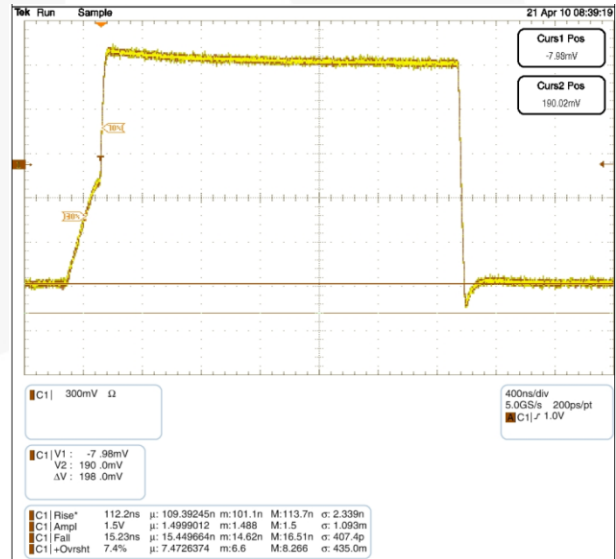

Figure 4. Waveform C: 600pF, Total R_{PU}: 2.2K Ω
between the ports until either of the port's $V_{CC}/2$ thresholds are reached. After the RC time constant has reached the $V_{CC}/2$ threshold of either port, the port's edge detector triggers both dynamic drivers to drive their respective ports in the LOW-to-HIGH (LH) direction, accelerating the rising edge. The resulting rise time resembles the scope shot in Figure 4. Effectively, two distinct slew rates appear in rise time. The first slew rate (slower) is the RC time constant of the bus. The second slew rate (much faster) is the dynamic driver accelerating the edge.
The FXMA2104 dynamic drivers have enough current-sourcing capability to drive a 400pF capacitive bus. This is beneficial when an I²C buffer / repeater is required. The I²C specification stipulates a maximum bus capacitance of 400pF. If an I²C segment exceeds 400pF, an I²C buffer / repeater is required to split the segment into two segments, each of which is less than 400pF. Figure 4 is a scope shot of an FXMA2104 driving a lumped load of 600pF. Notice the (30% - 70%) rise time is only 112ns (total R_{PU} = 2.2K ·). This is well below the maximum edge rate of 300ns. Not only does the FXMA2104 drive 400pF; it also provides excellent headroom below the I²C specification maximum edge rate of 300ns.